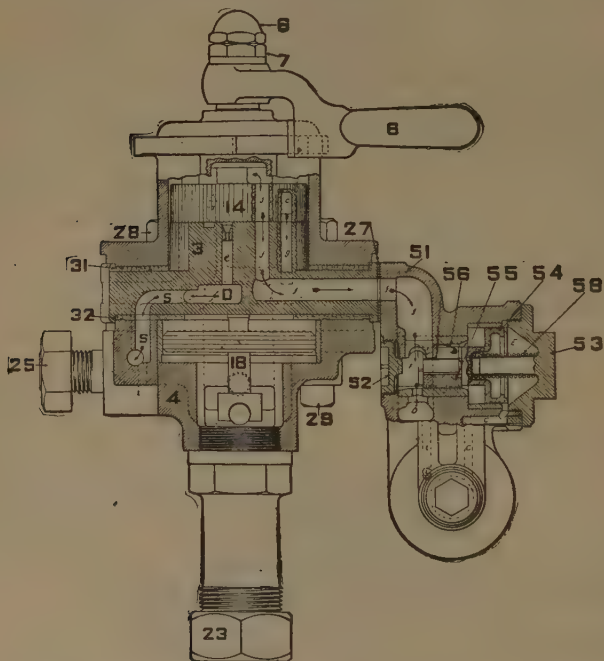
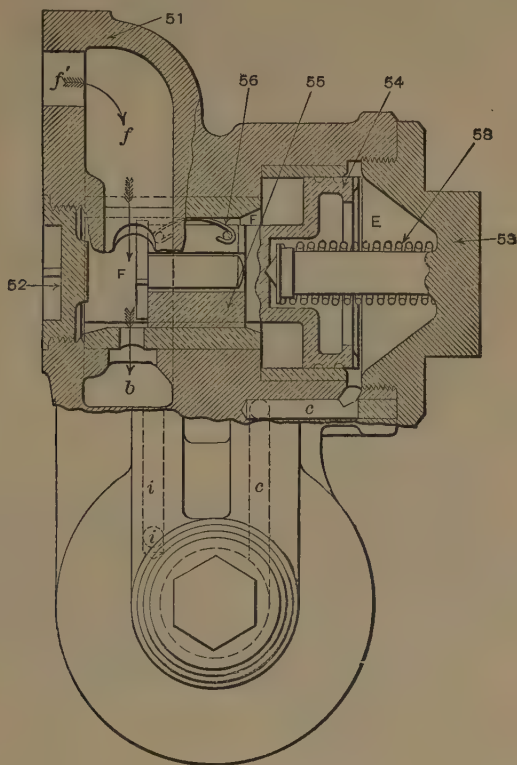

Fig. 284. Engineer's Brake Valve, "G-6," Running Position.
Fig. 285. Slide-Valve Feed Valve.
A. Referring to Figs. 285 and 286: this valve is used with either the D 5, E 6, F 6, or G 6 brake valve to keep up desired train-pipe pressure while the brake handle stands at "running."
Fig. 285 is a central section through the supply-valve case and governing device; Fig. 286 one through the regulating valve and spring box and a cross section through the supply-valve case. Ports f^1 and i register with brake-valve ports (similarly lettered in Fig. 284), and in the running position main reservoir pressure can reach F through f and f^1 . Chamber E (separated by piston 54 from chamber F) is connected with the train pipe by passage i , c , c , port a (controlled by the regulating valve 59) and chamber G over diaphragm 57. Valve